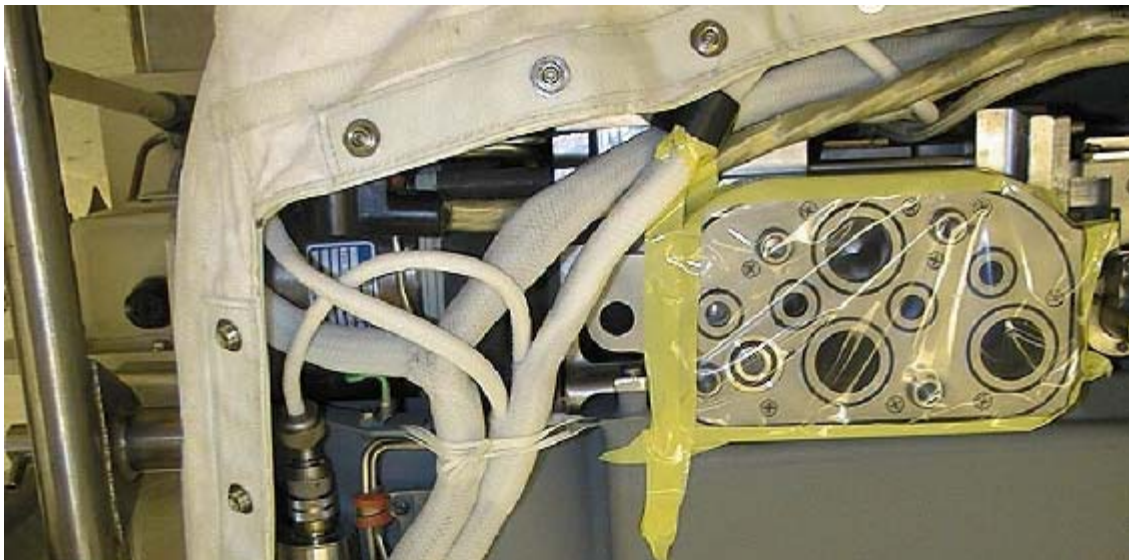

Figure 5.- Protective Covering.
15. Cover DCM and HUT interfaces with Teflon squares; secure with Kapton tape. Refer to Figure 5.
PLSS interface is shown in Figure 5.